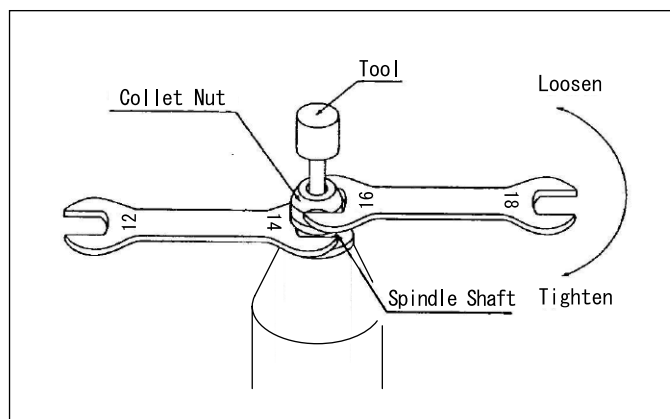

Fig 14
- 3) Insert the new tool into the collet and turn the collet nut clockwise to fasten the tool. (Fig 14)
Collet Nut is not properly positioned	Position the collet nut properly (P23 Fig 14)